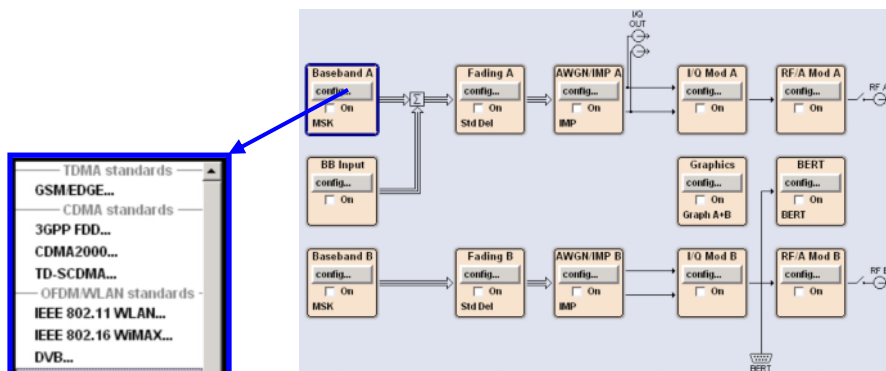

Figure 4-1 SMU200A – Diagram area
- a) Select “Baseband A” block in SMU diagram area (Figure 4-1)